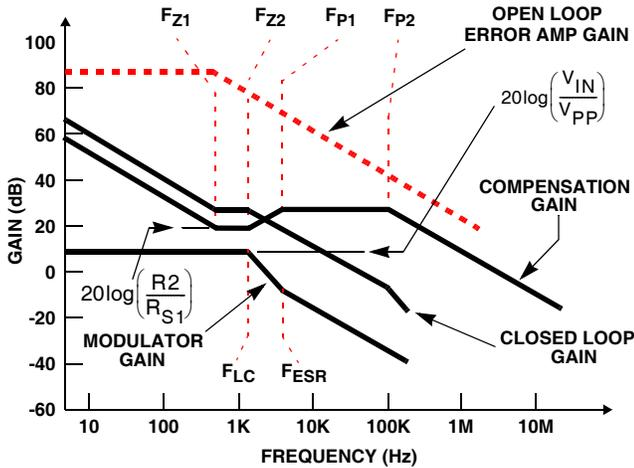

FIGURE 6. ASYMPTOTIC BODE PLOT OF CONVERTER GAIN
The compensation network consists of the error amplifier (internal to the ISL6432) and the impedance networks  $Z_{IN}$  and  $Z_{FB}$ . The goal of the compensation network is to provide a closed loop transfer function with high 0dB crossing frequency ( $f_{0dB}$ ) and adequate phase margin. Phase margin is the difference between the closed loop phase at  $f_{0dB}$  and 180 degrees. The equations below relate the compensation network's poles, zeros and gain to the components ( $R1$ ,  $R2$ ,  $R3$ ,  $C1$ ,  $C2$ , and  $C3$ ) in Figure 6. Use these guidelines for locating the poles and zeros of the compensation network:
Figure 6 shows an asymptotic plot of the DC-DC converter's gain vs. frequency. The actual Modulator Gain has a high gain peak dependent on the quality factor (Q) of the output filter, which is not shown in Figure 6. Using the above guidelines should yield a Compensation Gain similar to the curve plotted. The open loop error amplifier gain bounds the compensation gain. Check the compensation gain at  $F_{P2}$  with the capabilities of the error amplifier. The Closed Loop Gain is constructed on the log-log graph of Figure 10 by adding the Modulator Gain (in dB) to the Compensation Gain (in dB). This is equivalent to multiplying the modulator transfer function to the compensation transfer function and plotting the gain.